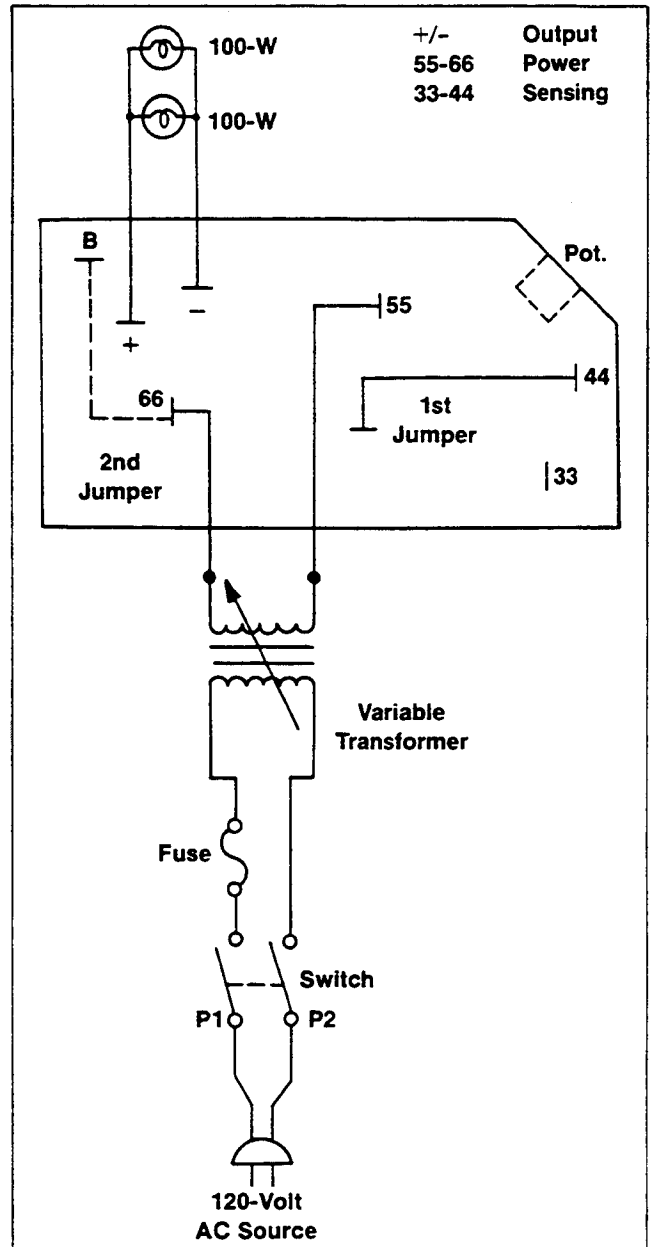

Figure 4-5. Voltage Regulator Test (7-Pin)
1. If regulator adjusting Pot. (see Figure 4-5) has not been factory sealed, set Pot. to its mid-position.
2. Connect the components as shown in Figure 4-5. The two 100 watt bulbs are connected across the positive (+) and negative (-) regulator terminals. The first jumper is connected across regulator terminal 44 and the unmarked terminal. The output of the variable transformer is connected to terminals 55 and 66 of the regulator. Connect a double pole switch and a 2 Amp. fuse in series with the AC power cord and transformer (if not incorporated in the transformer assembly).